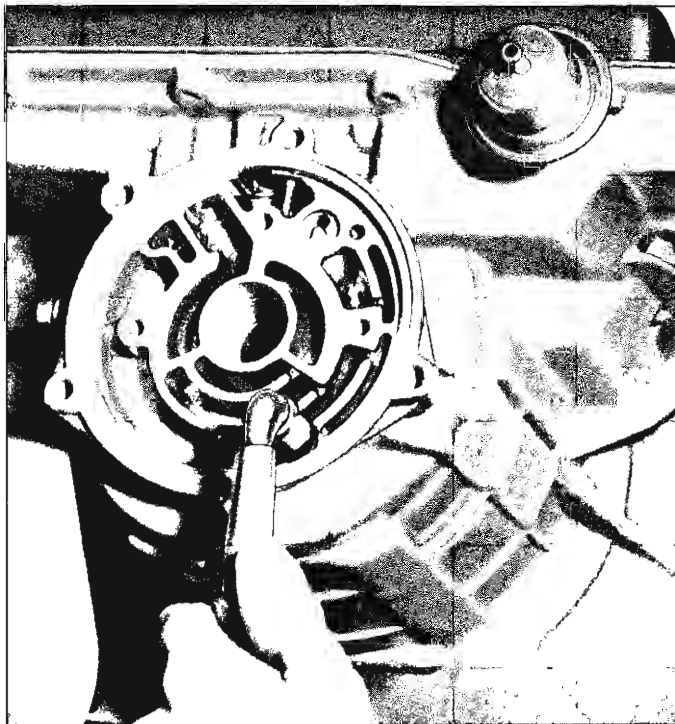

Fig. 14—Applying Air to Remove Rear Piston
20. Remove the rear piston by applying air to the reverse port in the rear of the transmission case as shown in Figure 14. Remove the inner and outer seals.